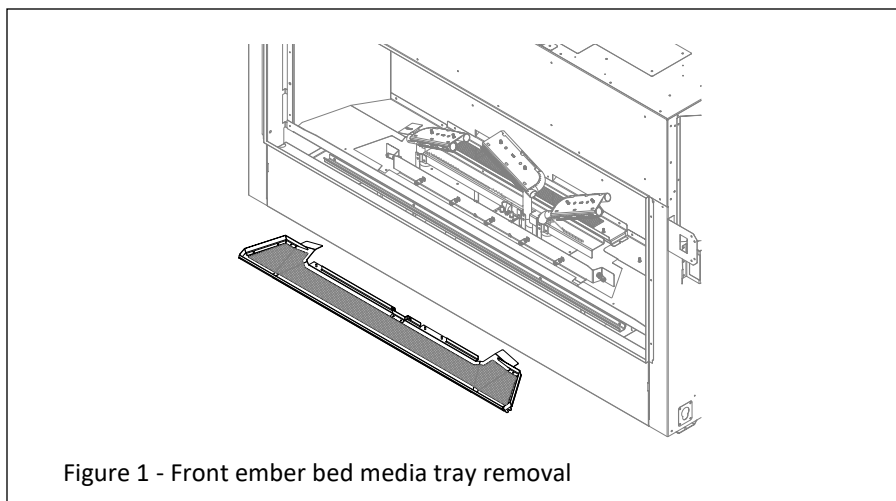
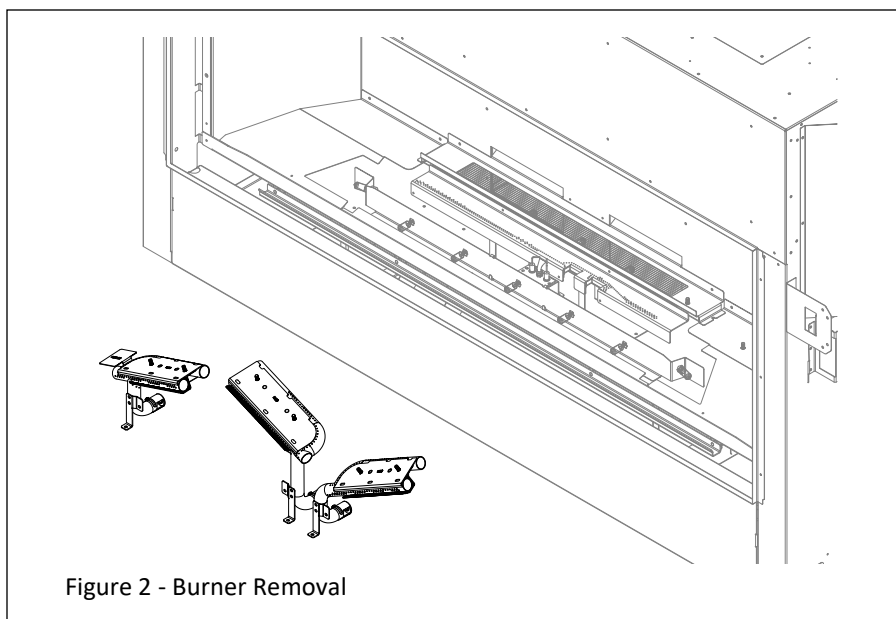

Figure 1 - Front ember bed media tray removal
Figure 2 - Burner Removal
1. Remove valance from fireplace. Remove and retain (2) screws from the front ember bed media tray. Lift tray up and out of fire-box. See Figure 1. Remove the (9) sheet metal screws that secure the left, center, and right burners to the bottom burner and floor of the control board. Remove the left, center, and right burners. See Figure 2.